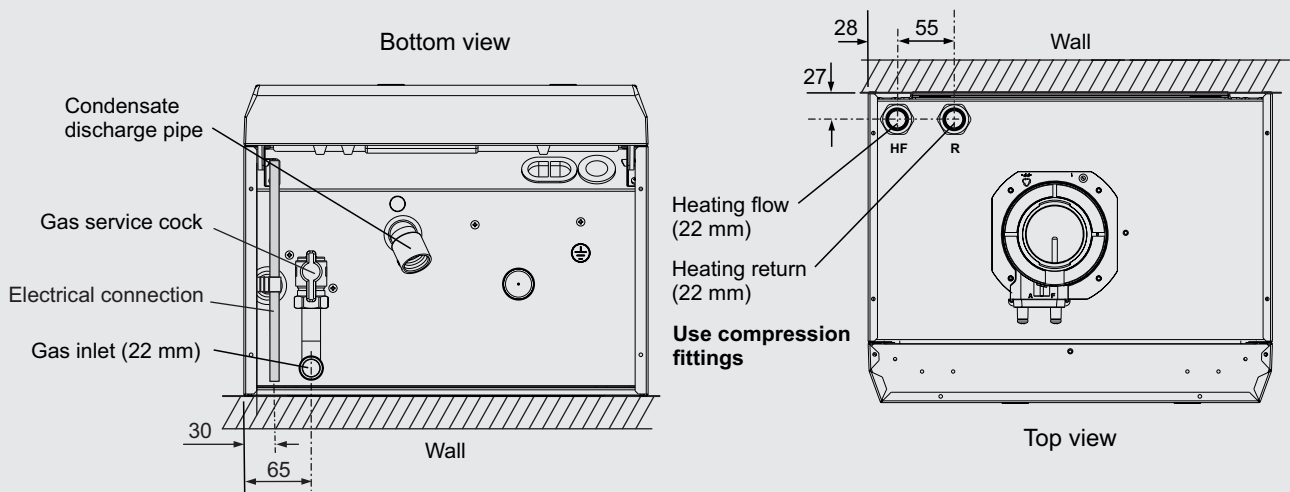

Fig. 5.4
### 5.5 CONNECT THE PIPEWORK - Fig. 5.4
2. Fit the gas service cock to the boiler connection in Fig. 5.4.
3. Connect the system pipework to the union fittings on the top of the boiler, see Fig. 5.4.
4. Connect the flexible condensate pipe to the rubber connector as shown in Fig. 5.4. Using the adaptor supplied, connect the flexible pipe to the condensate drain. Ensure that the condensate discharge pipe is as required in Section 4.10.